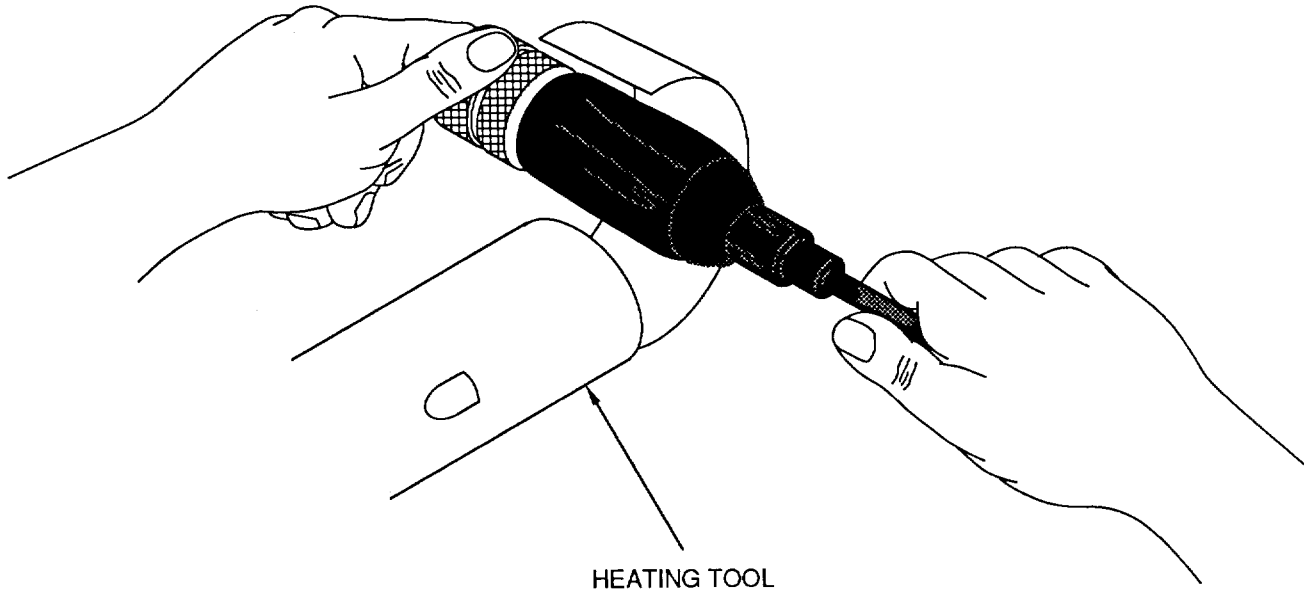

Figure 9. Heating Boot
c. Using heat gun and appropriate reflector, heat boot until it is warm to touch and becomes flexible (Figure 9).